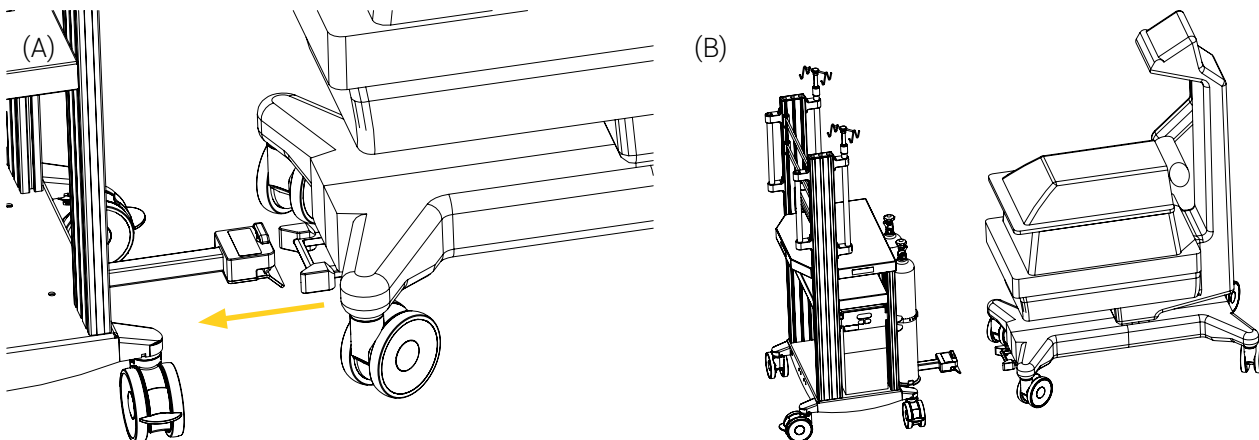

Figure 14 : Removal of the transport cart from the Babyleo TN500 incubator
3. Push the transport cart away from the Babyleo TN500 incubator to detach the fold-up hitch from the THS coupling device, while simultaneously retaining the knob of the quick release mechanism of the fold-up hitch lifted (Figure 14).